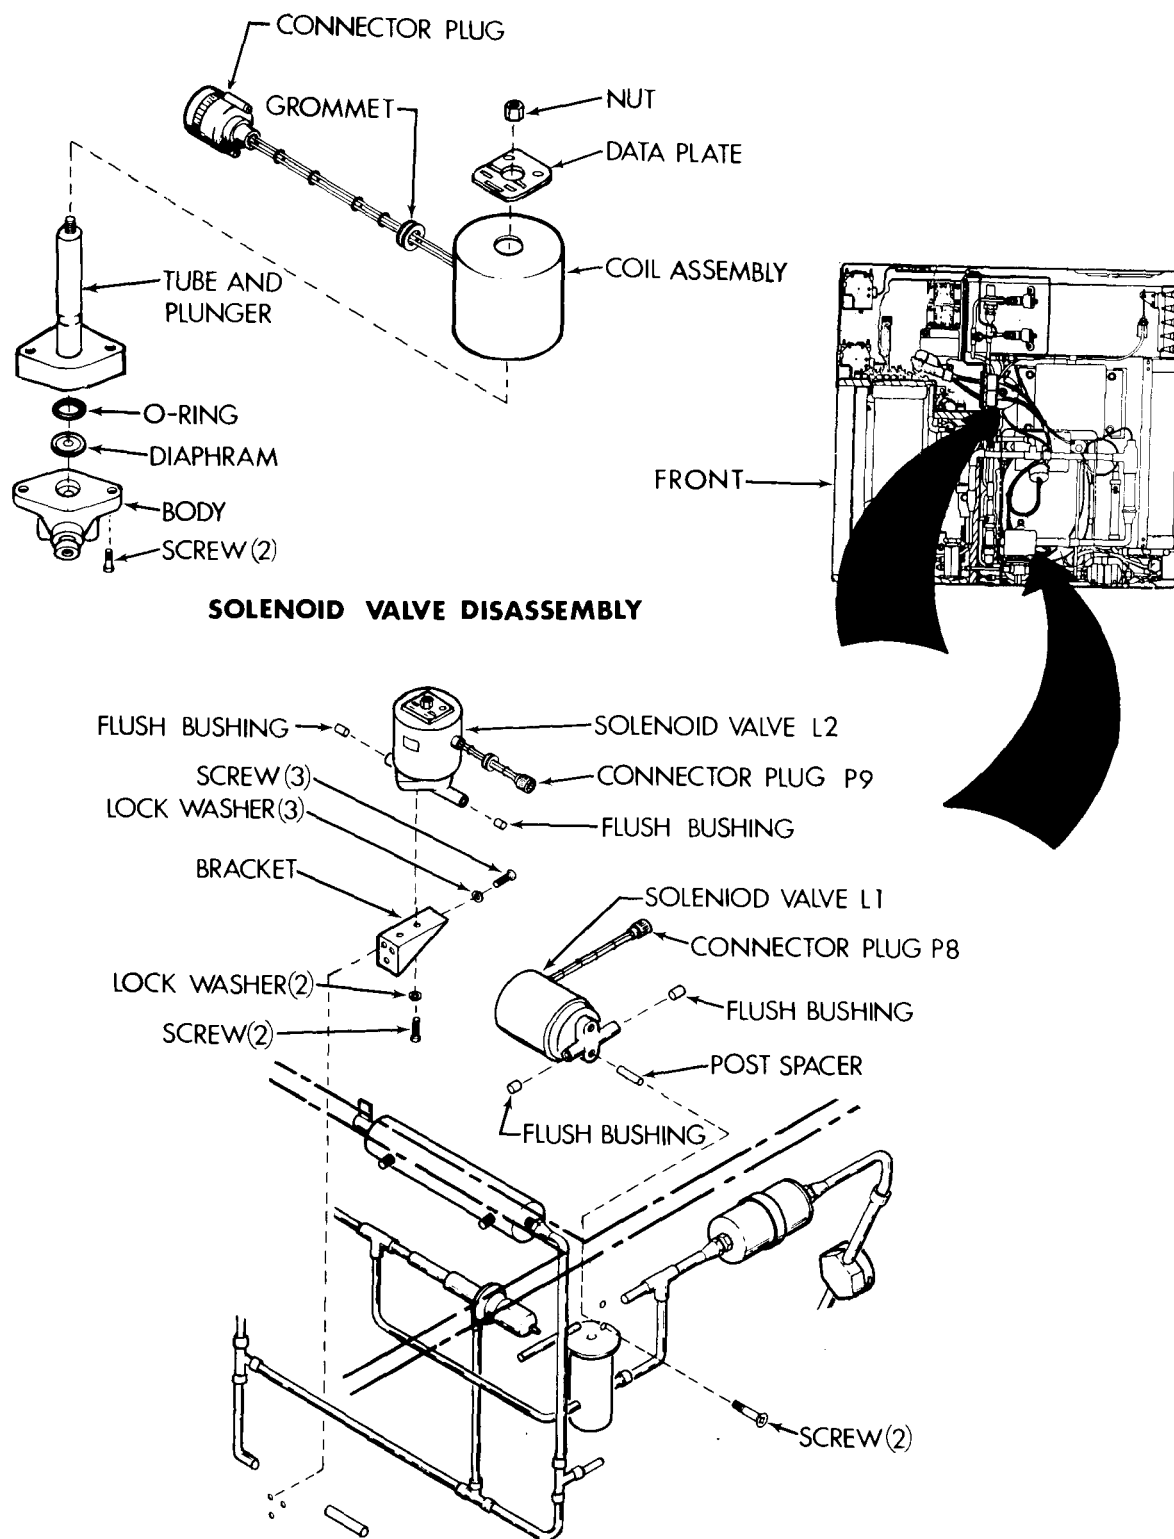

Figure 5-12. Solenoid Valves
a. Removal. (See fig. 5-12.)
(1) Disconnect power at power source.
(2) Remove top rear cover (para 4-11).
- (1) Disassemble all removable components from new valve.
- (2) Install flush bushings in valve body. Be sure dry nitrogen is flowing through system, then position valve body and braze joints of refrigerant tubing to valve body.
- (3) Secure valve body to housing with hardware and brackets shown on figure 5-12.
- (4) Reassemble internal components in the valve body and install the tube and plunger assembly, and two attaching screws.
- (5) Install coil and connector assembly, data plate, and attaching nut on valve body.
- (6) Connect connector plug.
- (7) Replace dehydrator. (See para 5-30.)
- (8) Leak test all newly connected joints and all tube connections in the area.
- (9) Secure wires to existing harnesses with new plastic tie down straps or lacing cord.
- (10) Install top rear cover (para 4-11).
- (11) Evacuate and charge the refrigerant system in accordance with paragraphs 5-15 and 5-16.